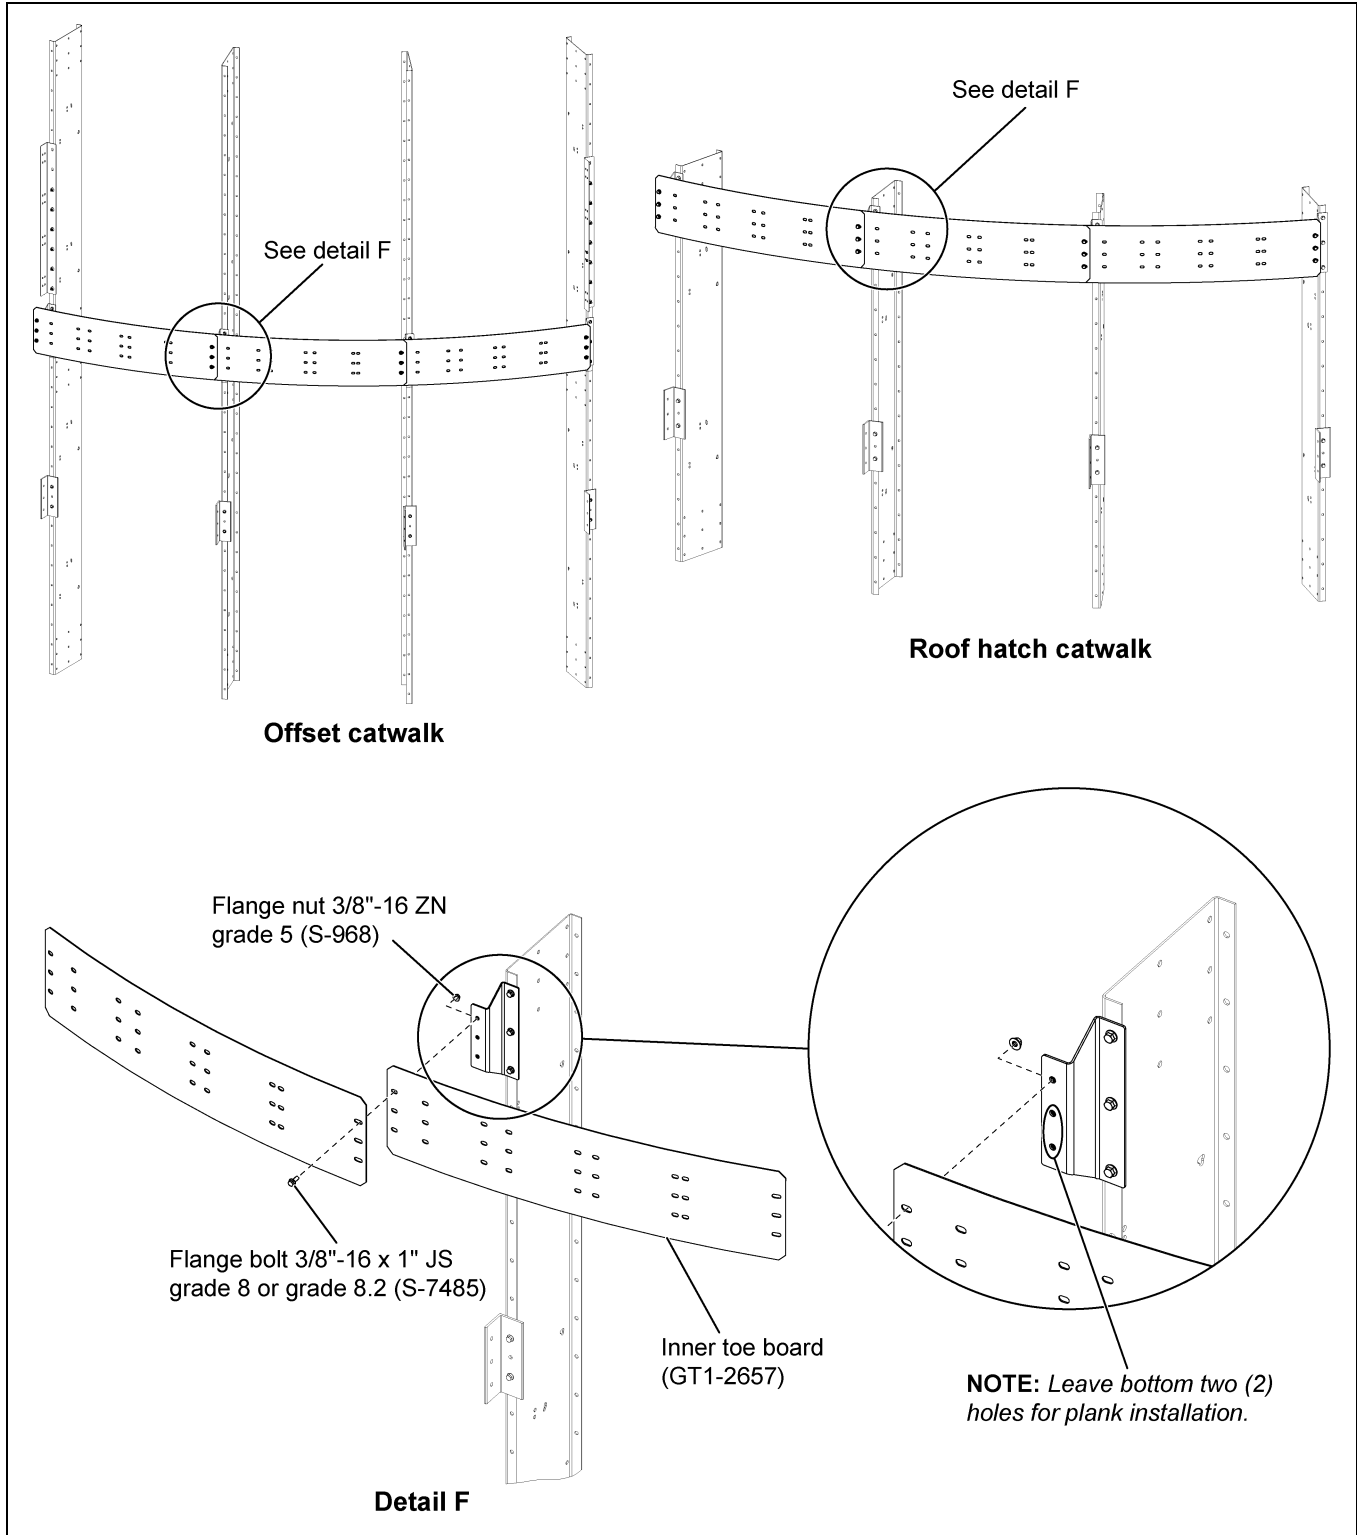

Figure 6K Inner Toe Board Installation for Offset and Roof Hatch Catwalks
1. Install the inner toe board (GT1-2657) to the Z-clips (GT1-2036). (See Figure 6K.)
2. All the toe boards should be installed between the Z-clips using 3/8"-16 x 1" JS grade 8 or grade 8.2 bolts (S-7485) and 3/8"-16 ZN grade 5 nuts (S-968). (See Figure 6K.)